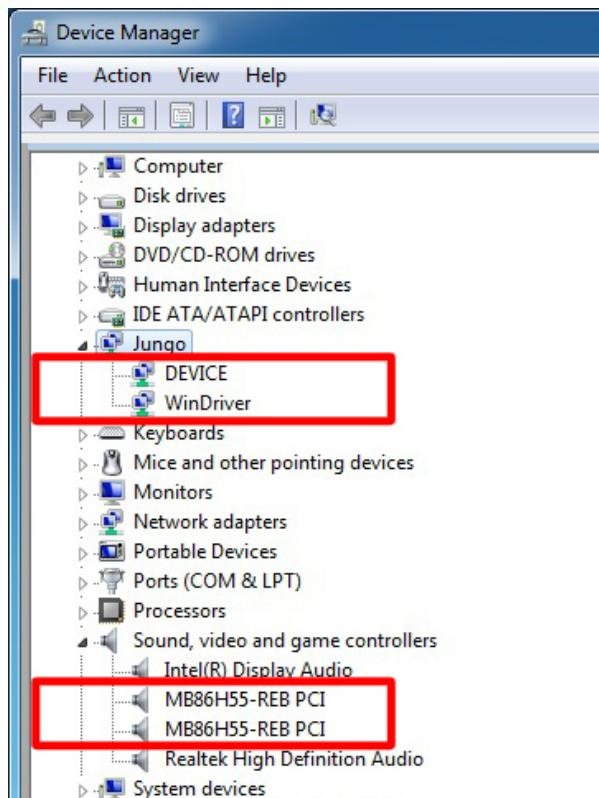

Figure 1-9: Device Manager – 64-bit OS
Step 7: Check the device manager in the Windows control panel to ensure the driver (MB86H55-REB PCI, DEVICE and WinDriver) has been properly installed. See **Figure 1-9** for the details.